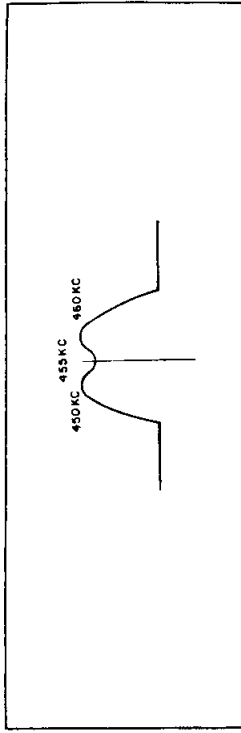

Figure 6. Alignment Waveform.
1. 455-KC IF Alignment - Connect sweep generator horizontal output to horizontal connection on oscilloscope. Connect RF output from the sweep generator to pin 1 of V4. Set sweep generator frequency to 455 KC. Connect probe from vertical connection on oscilloscope to pin 9 of V6. Adjust alignment points A (T3 secondary) and B (T3 primary) until the signal on the oscilloscope is the same as that shown in figure 6.
Move the sweep generator to pin 2 of V3. Adjust alignment points C (T2 secondary) and D (T2 primary) for a symmetrical signal the same as shown in figure 6.
2. 10.7 MC IF Alignment. - Reset the sweep generator to exactly 10.7 MC and connect the RF output from the sweep generator to pin 2 of V2. The signal presentation on the oscilloscope will resemble that shown in figure 6, except it will be centered around 10.7 MC. Adjust alignment points E (T1 secondary) and F (T1 primary) until the scope presentation is symmetrical and the 10.7-MC marker is exactly centered.